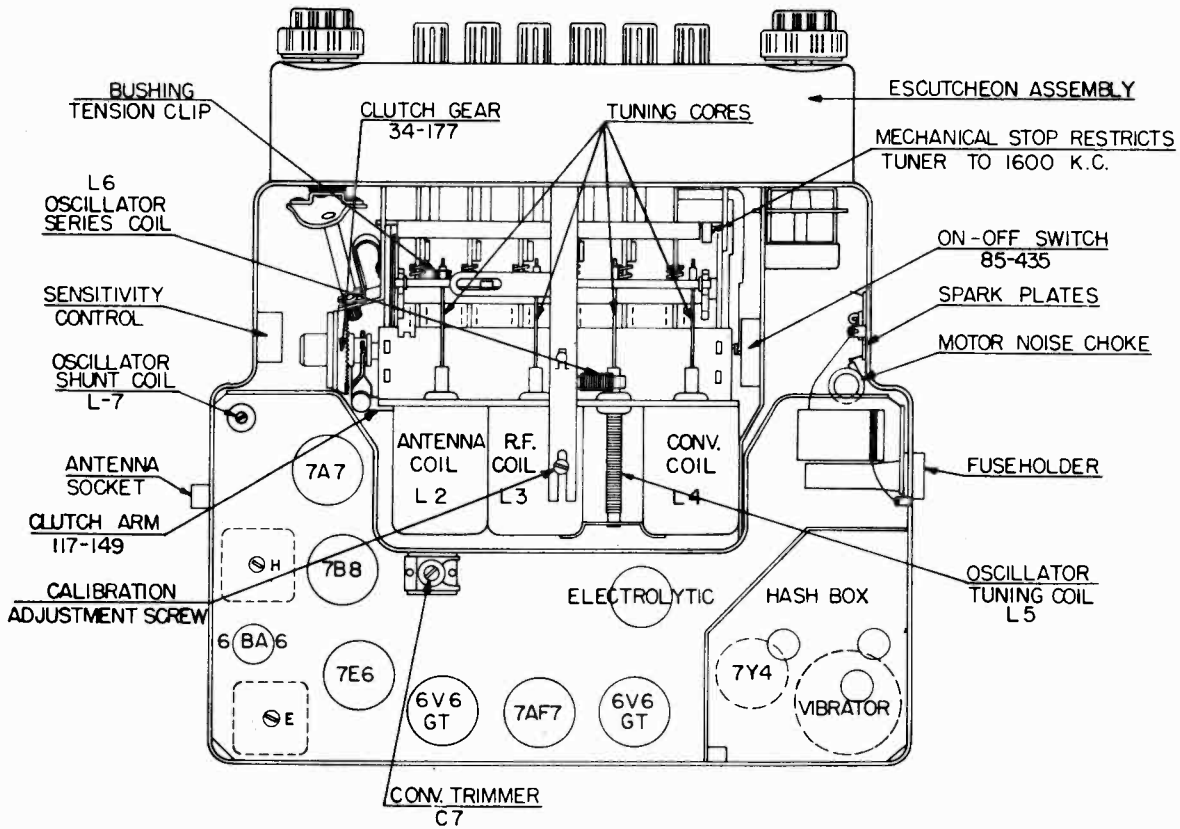
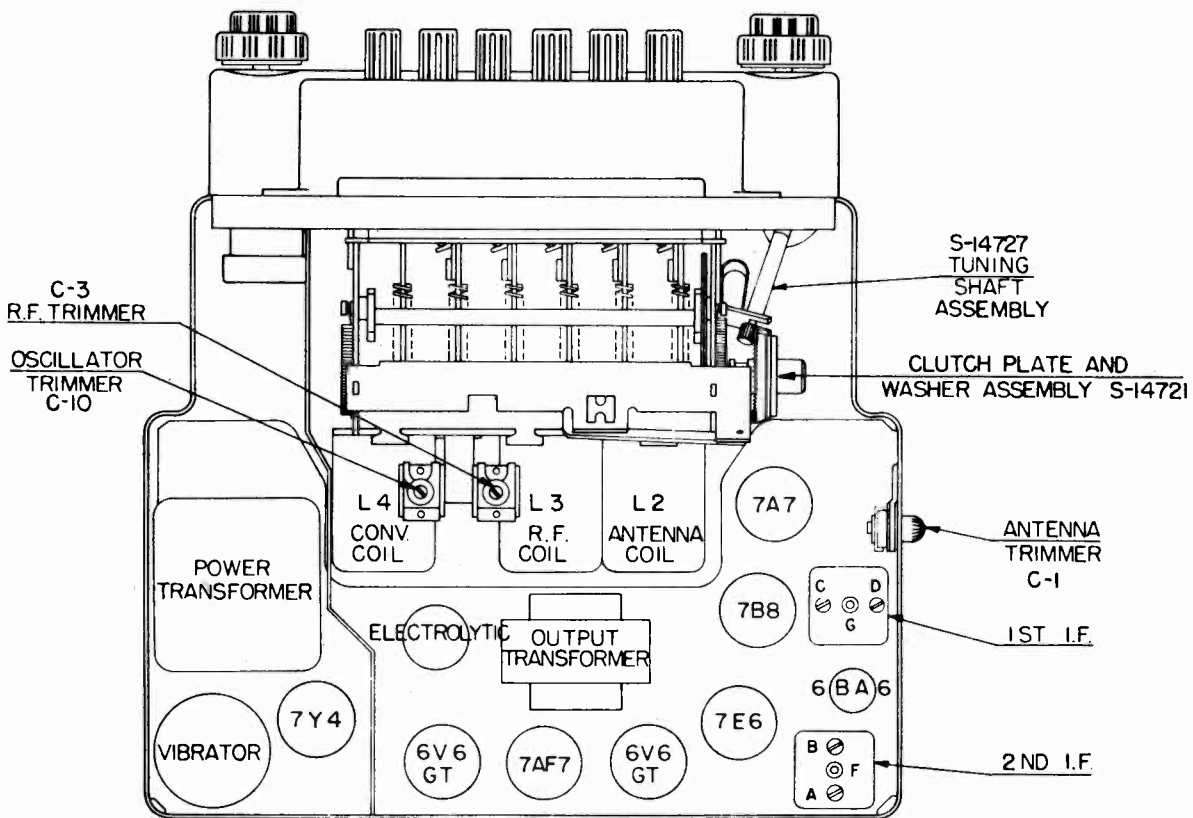

Fig. 6. Top View of Chassis
Fig. 7. Bottom View of Chassis
4. Adjust I.F. trimmers A, B, C, and D in order named for maximum output (Fig. 7). Some units have I.F. transformers that are slug tuned. In this case adjust I.F. slugs E, F, G, and H in order named for maximum output. Repeat the adjustments to assure accurate alignment. (Figs. 6 and 7.)
4. Adjust oscillator trimmer C-10 (Fig. 7), for maximum response.
7. Adjust converter trimmer C-7, R.F. trimmer C3 (Figs. 6 and 7) and antenna trimmer C-1 (Fig. 7) for maximum response.
8. If dial calibration is off after making above adjustments, a correction can be made by tuning eccentric screw at fulcrum of dial pointer. (Fig. 6.)
5. Adjust oscillator trimmer C-10 (Fig. 7) at 1675 Kc.
6. Adjust converter trimmer C-7, R.F. trimmer C3, and antenna trimmer C-1 (Figs. 6 and 7) for maximum output reading.
9. Adjust oscillator core L-5 (Fig. 6) to scale at 1300 Kc.
10. Adjust the antenna core L-2, R.F. core L3, and converter core L-4 (Fig. 6) for maximum output reading.
12. "Rock in" shunt oscillator coil L-7 (Fig. 6) for maximum output reading. This should be done only as a last resort. This is the same as rocking in the padder condenser on a gang condenser receiver.